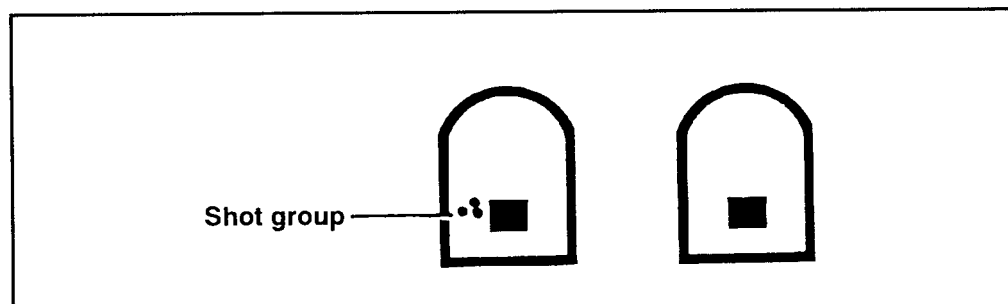

Figure 5-16. Shot group on basic machine gun target.
(1) Set the sights for 10-meter zeroing, then fire a three-round shot group.
(2) After firing the second three-round shot group (Figure 5-16), place the grid square overlay over the pasters (1 and 2) (Figure 5-17) and count the number of clicks it will take for rounds to impact on the black aiming paster. (Corrections for Figure 5-17 would be turn the windage knob toward the muzzle (clockwise) two clicks.)